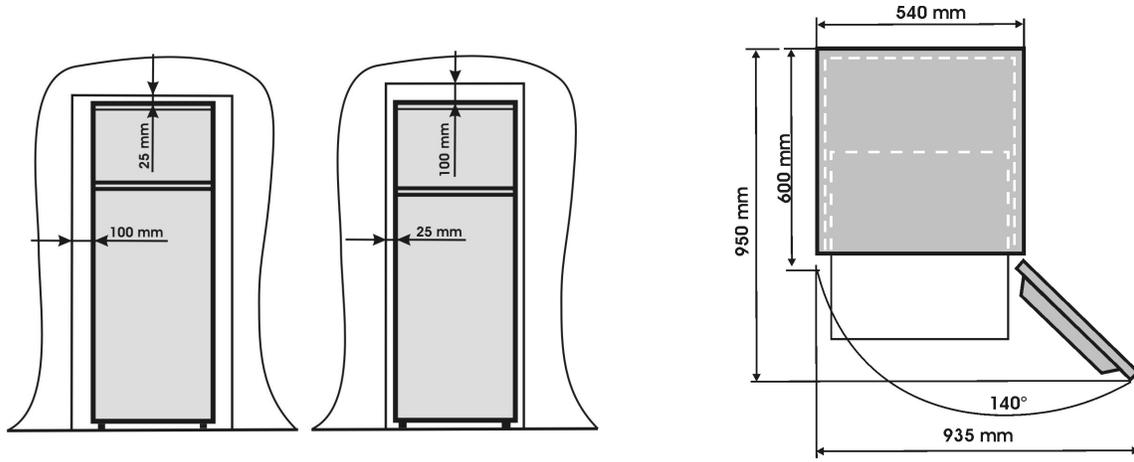

Fig 2
3. Make sure that sufficient room is provided around the appliance to ensure free air circulation (**Fig 2**).
- Open the door of your appliance to make sure that there is enough space for the door to open properly (**Fig 2**).